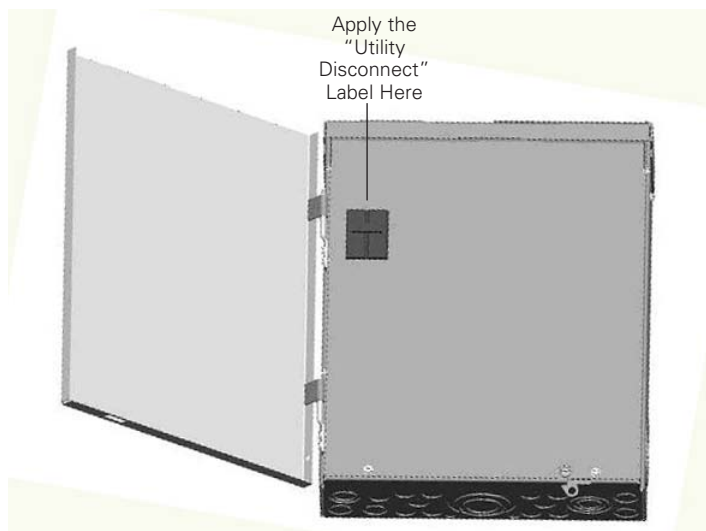

Figure 3. Label Placement for Non-Service Entrance Applications.
- Step 3: Apply the "UTILITY DISCONNECT" label adjacent to the UTILITY circuit breaker on the deadfront (see Figure 3).